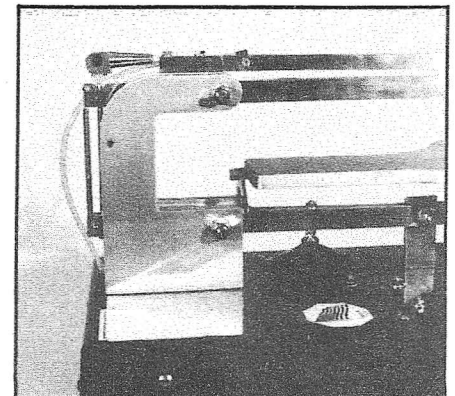

Fig. A-3
**Tip #1** — Using light machine oil (3-in-1 brand oil is good), put a few drops under the wedge pivot at the rear tension bar. You will also need to put a drop of oil on each side of the pivot point bearings. (This is where the bolts that hold the arm on are located, see fig. A-3).